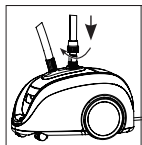

Figure 2
1. Insert the Telescoping Pole into the steamer. Align the pole grooves with the grooves inside the pole base and push down. Hand tighten the Pole Nut by turning clockwise (Figure 2).